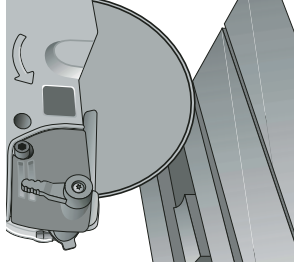

FIG. 7
- Optimum position for minimum overspray (Fig. 7).